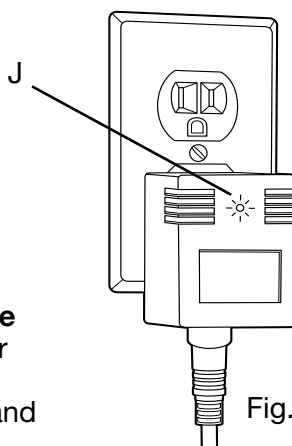

Fig. 6
6. Plug the ballast into a standard 120V 50/60Hz outlet and turn the lamp on. The green LED indicator (J) on center of the ballast will illuminate (Fig. 6). If not, please refer to the troubleshooting section of this manual (see page 11).